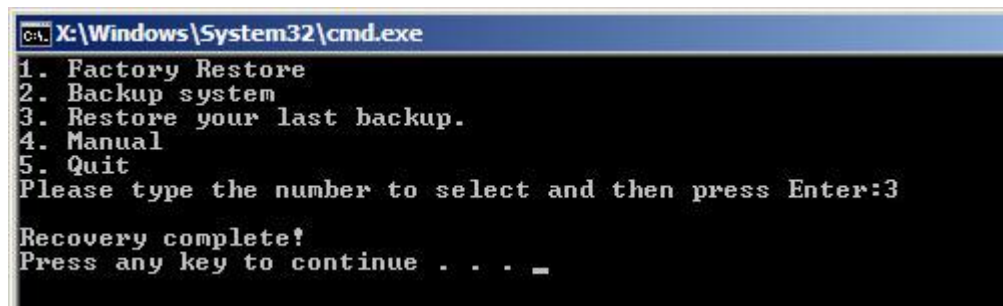

Figure D-40: Restore System Backup Complete Window
Step 3: The screen shown in **Figure D-40** appears when backup recovery is complete. Press any key to reboot the system.